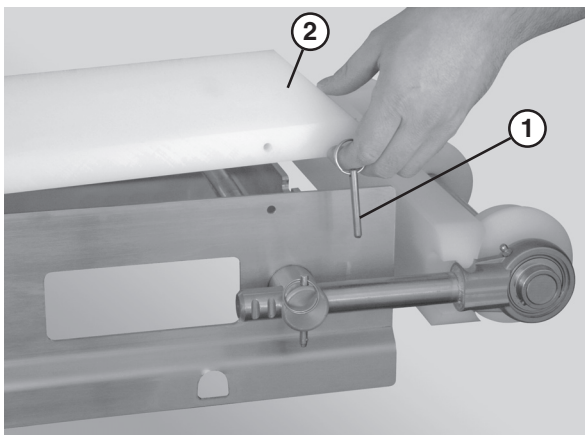
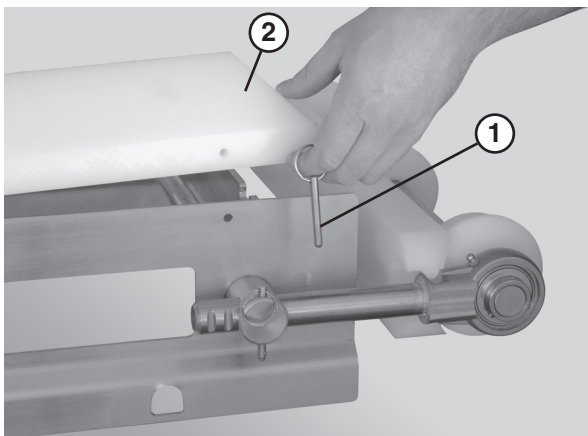

Figure 41
Figure 46
1. Remove the guides, if applicable, by removing the pull pins (Figure 41, item 1) that connect the guide (Figure 41, item 2) to the frame.
1. Remove the guides, if applicable, by removing the pull pins (Figure 41, item 1) that connect the guide (Figure 46, item 2) to the frame.
1. Remove the pull pins (Figure 46, item 1) that connect the guide (Figure 46, item 2) to the frame.